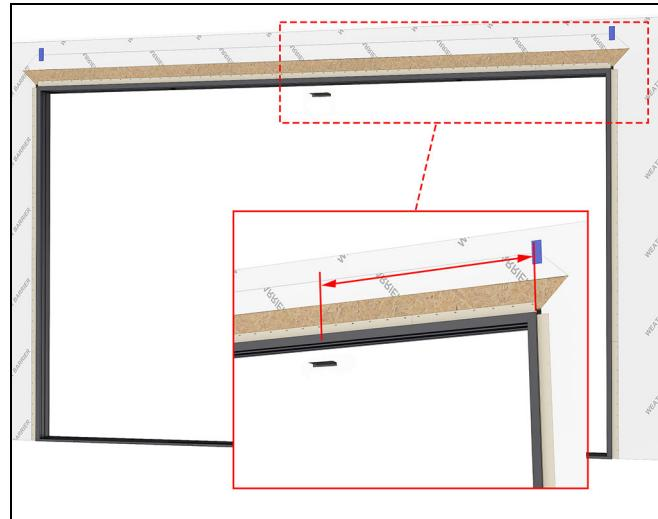

Figure 157 XOOX
1. Measure the net clear opening width of the frame and divide the value by two. Transfer that measurement to the exterior track of the head jamb and center the top stationary bracket at that measurement. **See Figure 157.**